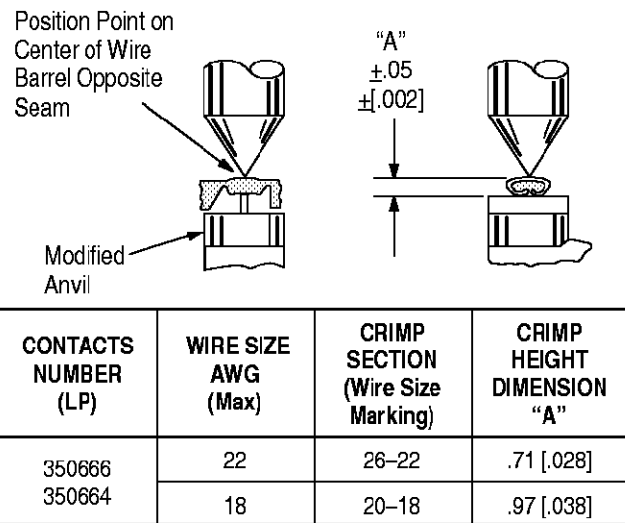

Figure 4
This inspection requires the use of a micrometer, with modified anvil, as shown in Figure 4. AMP recommends the modified micrometer (Crimp Height Comparator RS-1019-5LP) available from:
1. Refer to Figure 4, select a contact and a wire (maximum size) for each crimp section listed in the table.
3. Using the crimp height comparator, measure the wire barrel crimp height as shown in Figure 4. If the crimp height conforms to the dimensions provided in Figure 4, then the tool is considered dimensionally correct. If the crimp height does not conform to the dimensions provided, return the tool to AMP for evaluation and repair (refer to Section 5, REPLACEMENT AND REPAIR).